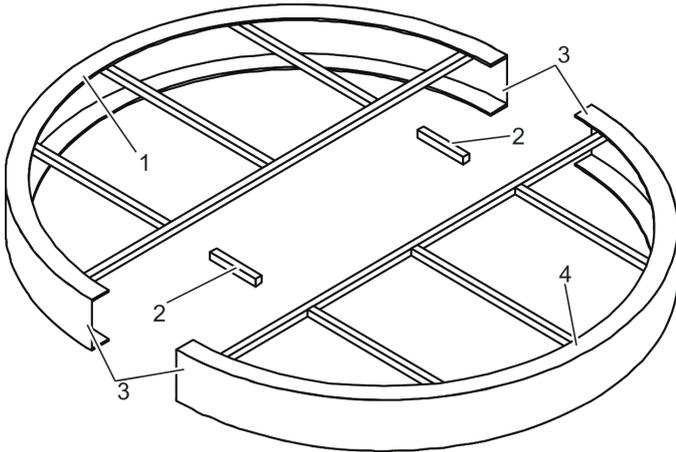
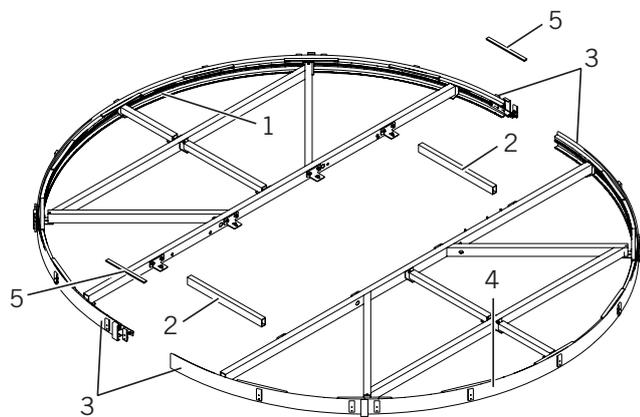

Fig. 52 Ceiling structure (example)
Fig. 53 Ceiling structure with 100 mm canopy height and KT FLEX Direct Operator
22. Connect ceiling halves (Fig. 52/1 + 4 and Fig. 53/1 + 4) with 2 struts (Fig. 52/2 and Fig. 53/2) in the center.
23. Align both connecting brackets from the first ceiling half between the edges (Fig. 52/3 and Fig. 53/3) of both ceiling halves.
25. Affix spacers (Fig. 53/5) after joining the ceiling halves (bag 9501900275800). Use a suitable construction adhesive.